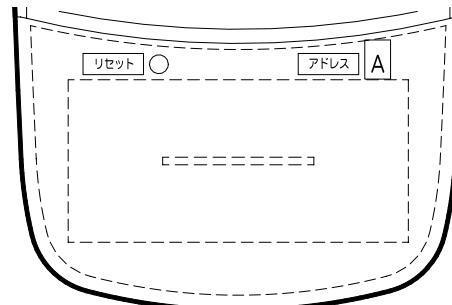
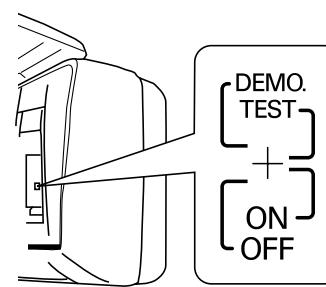

Fig. 34b
Fig. 35
- (1) Break the address-setting tab "A" on the second remote controller to select the remote controller address "B." (Fig. 34b)
- (2) Insert dry-cell batteries into the second remote controller and press the reset button. Then reattach the cover.
- (3) Open the air intake grille on the second indoor unit. Move the operation switch to the "DEMO" position. (Fig. 35)
- (4) Press the Start/Stop button on the remote controller. Check that the "beep" signal-received sound is heard from the second indoor unit.
- (5) Move the operation switch to the "ON" position, and close the intake grille. (Fig. 35)
- (6) Operate the remote controller. Check that the "beep" signal-received sound is heard from the second indoor unit.